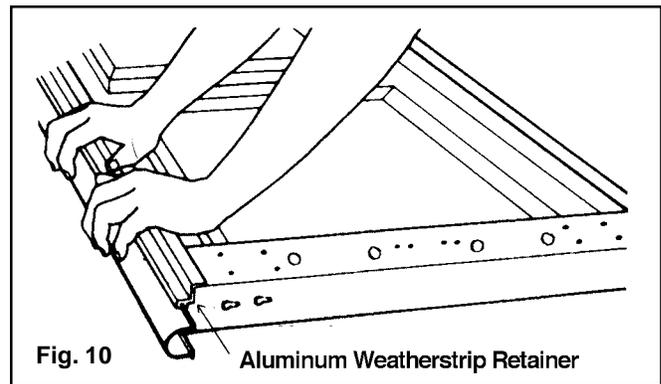

Fig. 10 Aluminum Weatherstrip Retainer
**Step 2:** Find the section with the aluminum weatherstrip retainer fastened to one edge. The aluminum weatherstrip retainer is on the bottom edge of the bottom section. Place the section on saw horses face down. (FIG. 10)